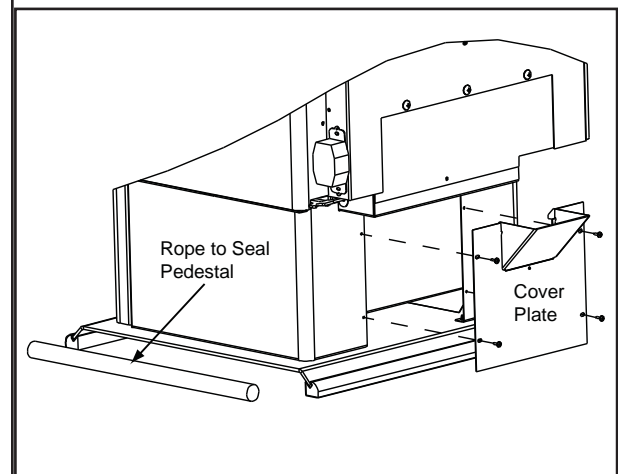

Figure 22.2 - Floor Installation Alternative
5. **Floor Installation Alternative:** In some instances you may not be able to install the flex pipe as show in **Figure 22.2**.
If that is the case, use the cover plate and sealing rope supplied with the pedestal kit as shown in **Figure 22.2**. The goal is to seal the pedestal so no room air can leak into the pedestal and for cold air infiltration.